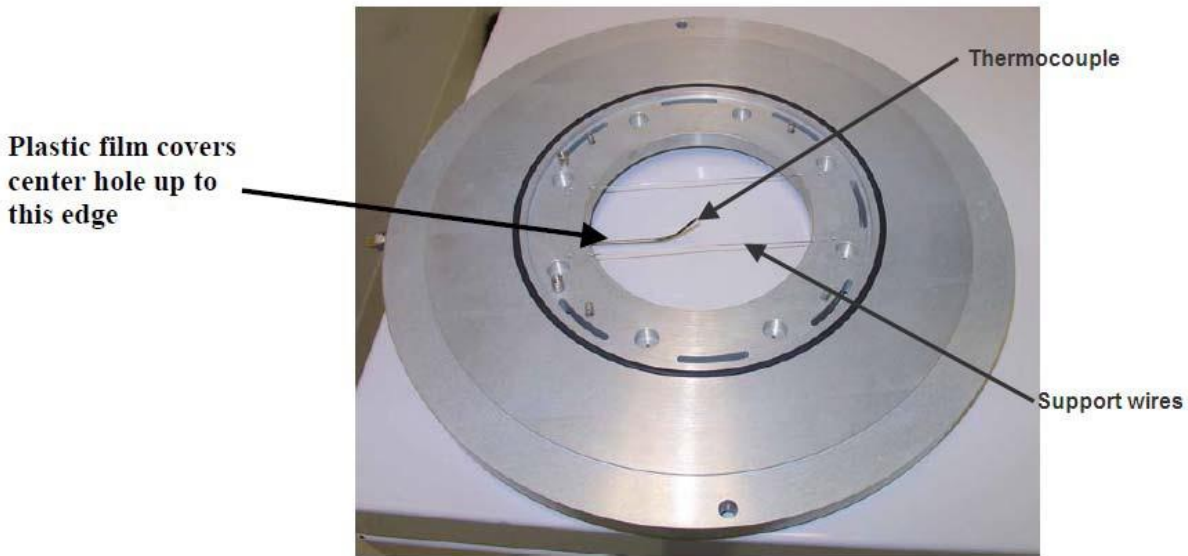

Figure 4-4 A small plastic thin film is placed on the wafer holder.
f Place the smaller diameter thin film (bottom) on the wafer holder. Make sure the film covers the large inner hole and extends to the edge of the eight small holes as shown in figure 4-4. The film must be flat with no wrinkles or cuts, replace film if film is defective.
- k When placing your mask (mold) and wafer (substrate) on the center of the bottom film, be sure to cover the thermocouple with your mask (mold) and wafer (substrate) to get better temperature control. See figure 4-4. If pieces are used the support wires will need to keep the mold and substrate in place (see figure 4-4).